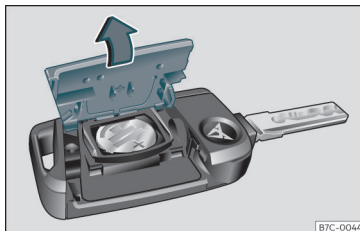

Fig. 111 Vehicle key: opening the battery compartment.
- Remove the cover from the back of the vehicle key >>> **Fig. 111** in the direction of the arrow >>> ❶.
- Fit the cover as shown >>> **Fig. 111**, pressing it onto the vehicle key casing in the opposite direction to that shown by the arrow until it clicks into place.
❶ CAUTION